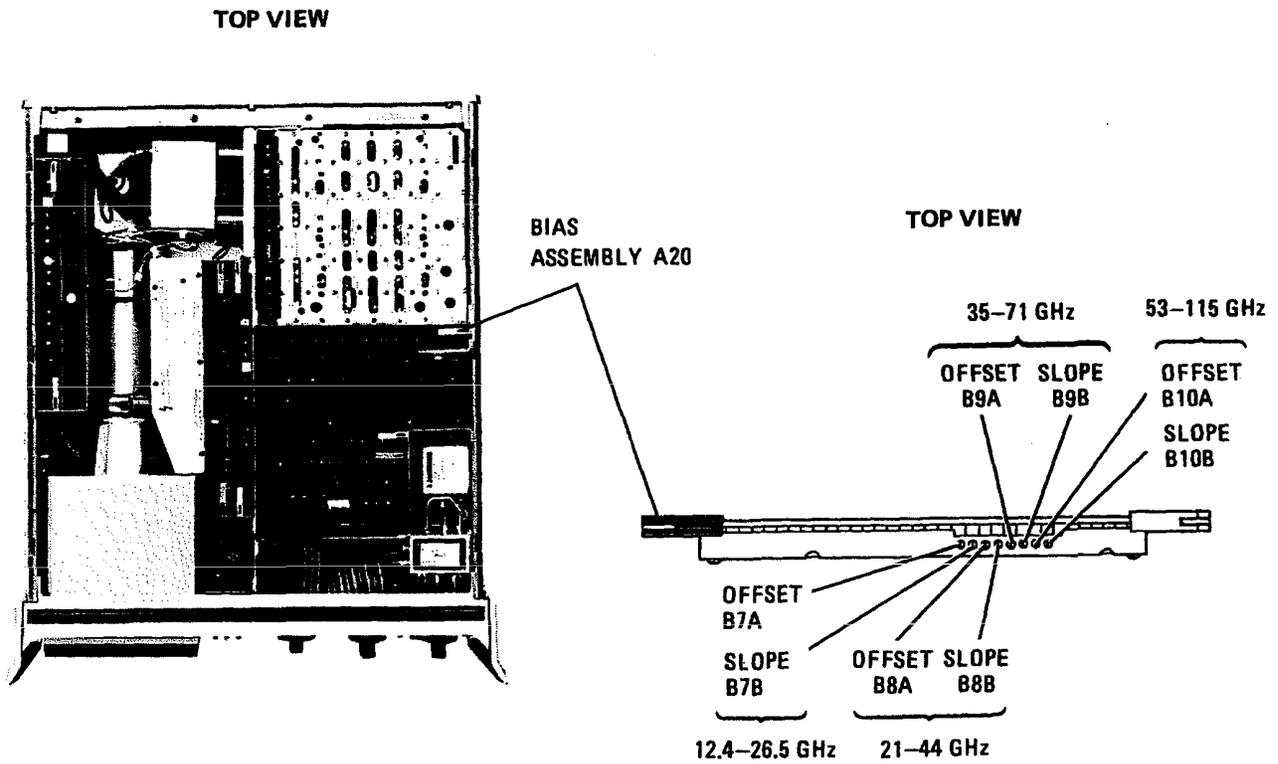

Figure 4-2. Offset and Slope Adjustment Locations
7. Vary the frequency of the signal generator to peak the response on the spectrum analyzer CRT display. If the signal goes off the top of the display, return it by adjusting the appropriate (frequency band) OFFSET control on bias assembly A20 (see Figure 4-2).
12. Adjust the appropriate SLOPE control on bias assembly A20 (see Figure 4-2) to place the trace on the top graticule line of the display.